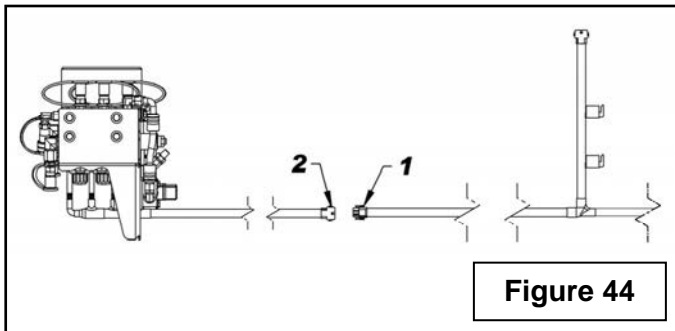

Figure 44
- 8. Figure 44:** Connect the male connector of the power supply harness (item 1) to the female connector of the hydraulic control harness (item 2).